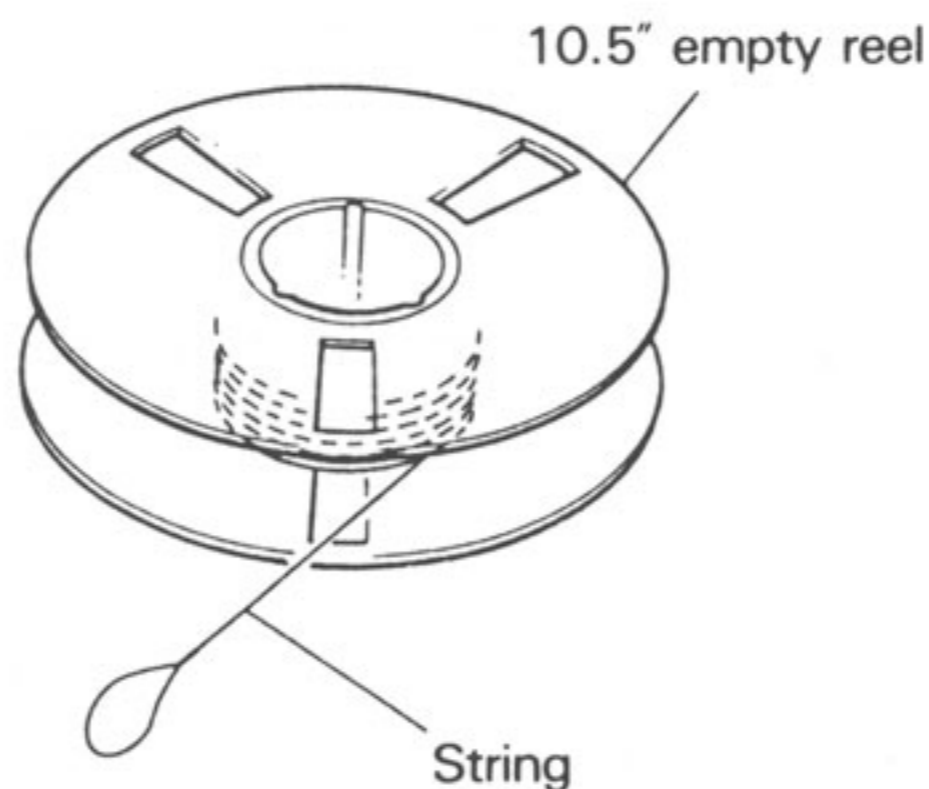

Figure 6-15. Reel and String
- STEP 2.** Wind a string around the reel as shown in Figure 6-15 and attach a 5kg tension scale to the end of the string.